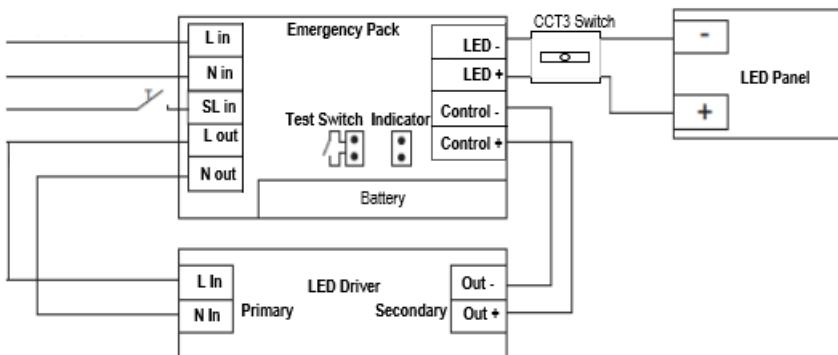

Fig. 2
- Connect "L out" and "N out" to L and N on the primary side of the LED panel driver. (see Fig. 2)